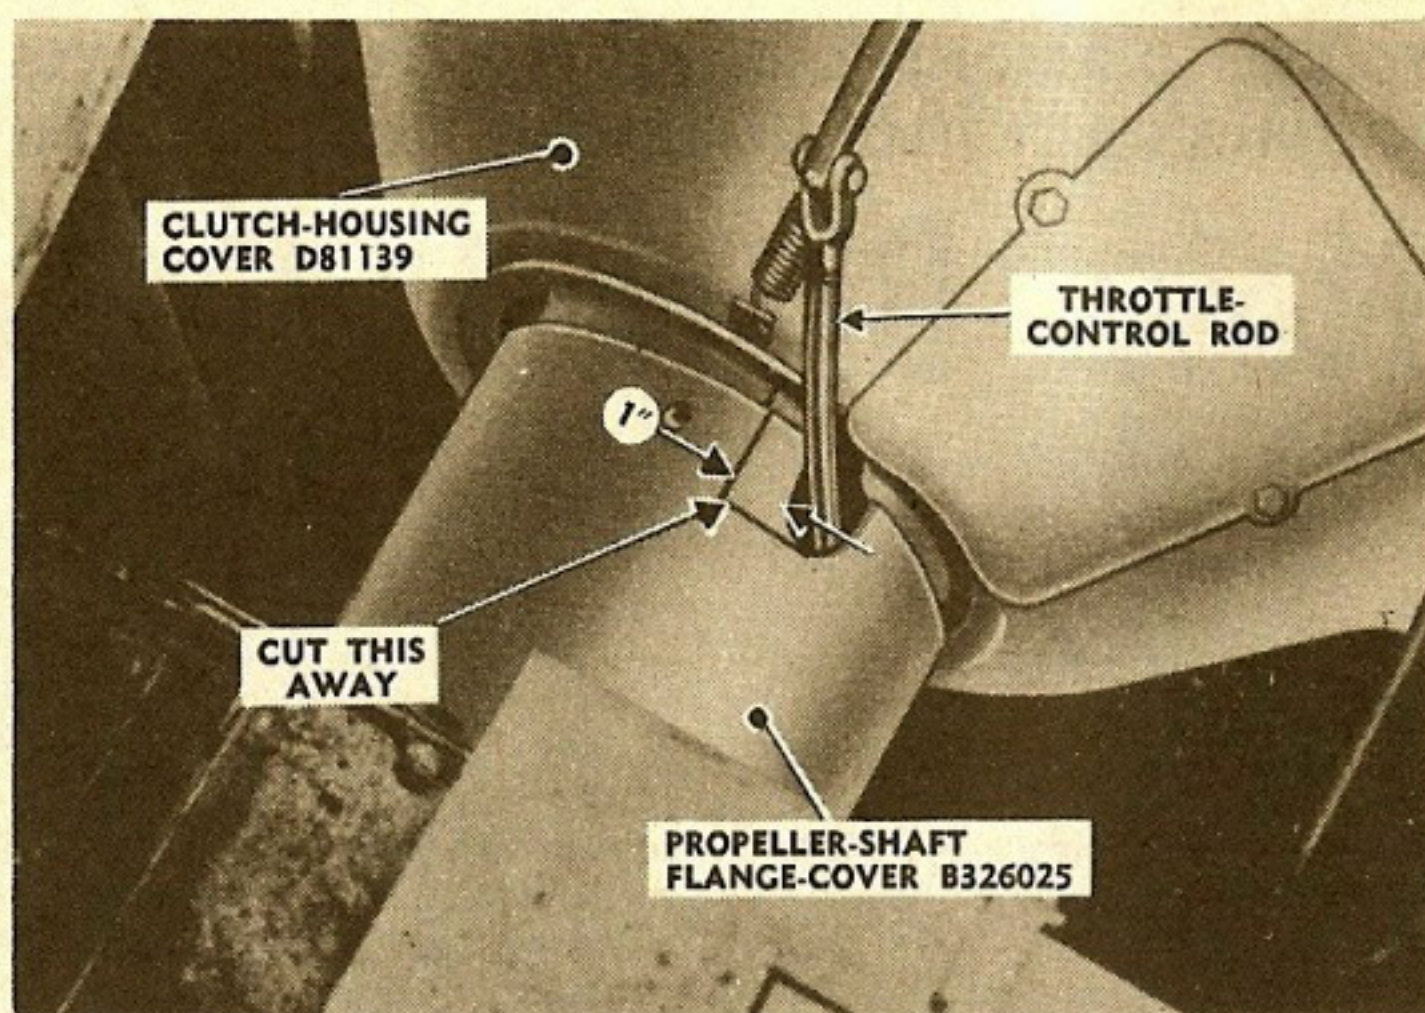

Fig. 1—There's a grease fitting under the throttle-control-rod hole. To get at it with a grease gun, first scribe lines as above.
the throttle-control-rod hole (Figs. 1 and 2). It's simply a matter of cutting out the hole a little wider.
1. Traverse the turret until you can see the clutch-housing cover and throttle-control rod as in Fig. 1.
3. Scribe the lines as shown in Fig. 1, running one inch over to the center of the propeller-shaft flange-cover (B326025) and then up to the clutch-housing cover (D81139).